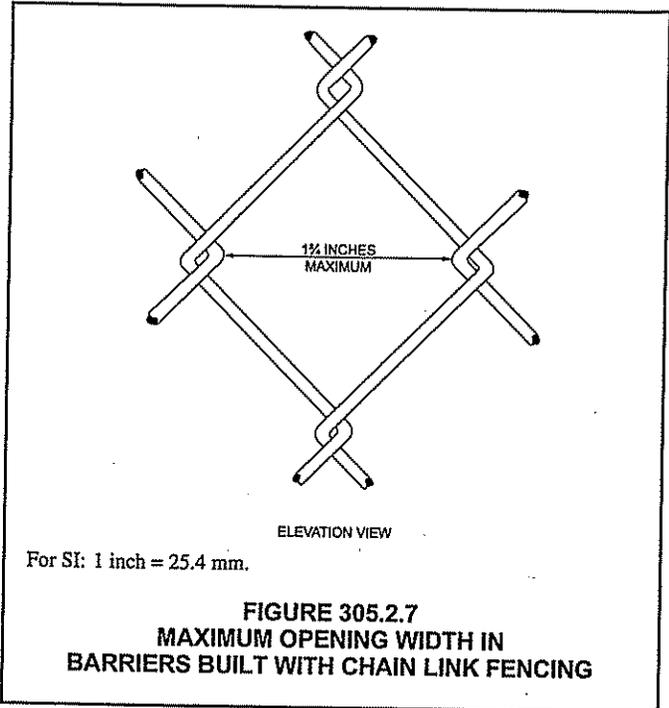

**FIGURE 305.2.6(2)**
Commentary Figure 305.2.6(2) shows a barrier. The fence is known to be 4 feet (1219 mm) high. It is obvious that the distance between the horizontal rails is less than 45 inches (1143 mm) and the vertical pickets spaced wider than 1.75 inches (44 mm). Thus, this fence is a violation because the horizontal members are not at least 45 inches (1143 mm) apart.